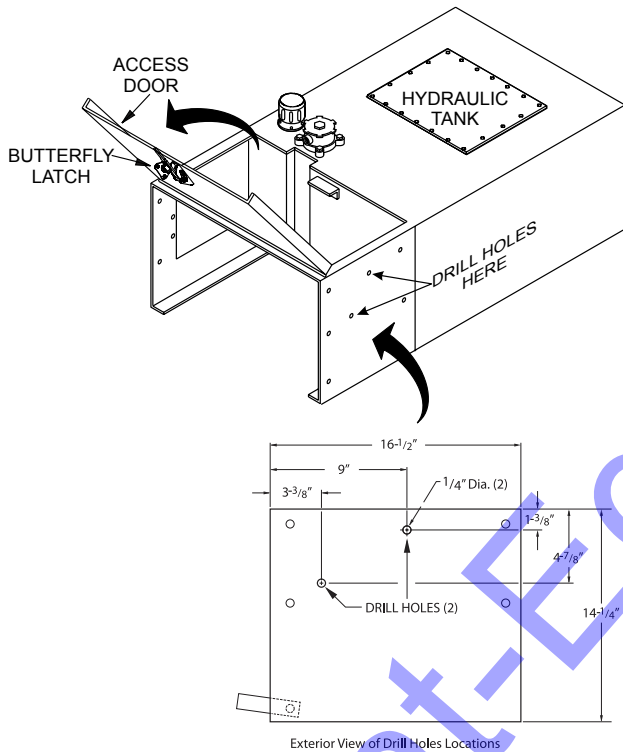

Figure 2. Cold Start Relay Control Box Mounting Holes
- Using a 1/4-inch drill bit, drill 2 holes as shown in Figure 2 for the mounting of the Cold Start Relay Control Box.